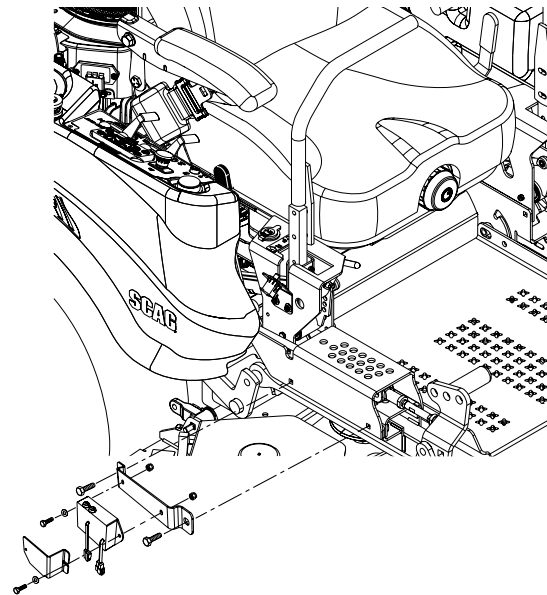

Figure 3-23. RF Module and Mounting Bracket Installation
10. Remove and retain the two (2) 3/8-16 x 1 1/4" bolts, lock washers and flat washers securing the right hand drive handle to the control lever bar.
15. Install the RF switch into the end of the right hand drive handle. See Figure 3-23. It may be necessary to add a light application of silicone to retain the switch in the handle.